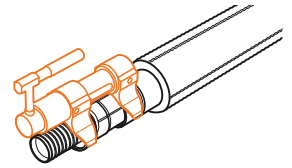

Fig. B10.3.4
7. Assemble the press tool with press jaws (Fig. B10.3.4). Securely locate the press tool jaws onto the collars of both connector sleeves.